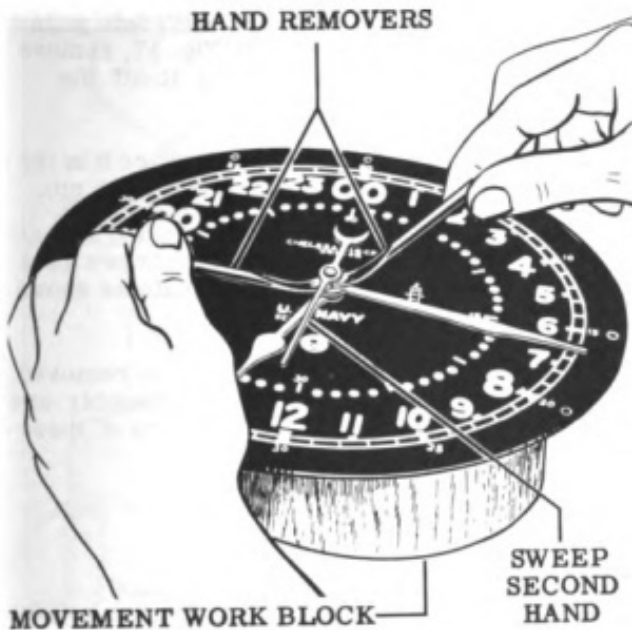

Figure 14
4. Lift the dialed movement out of the case and rest it, dial side up, on the movement work block (Tool No. 1A) in the position shown in Fig. 14.
5. Using a pair of hand removers with felt pads (Tool No. 2A) as shown in Fig. 14, pry off the sweep second hand, then the minute hand and finally the hour hand. The purpose of the felt pads on the heels of the hand removers is to put a cushion between the bearing surface of the hand removers and the dial to prevent the dial from being scratched.